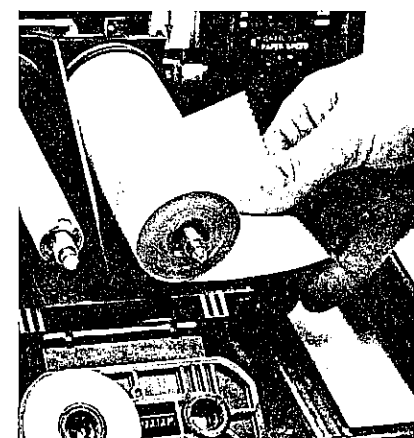

Figure 29
7. Slide a fresh roll of paper in position on the supply side shaft on the right side of the platen assembly. The paper must spool off the bottom of the roll. (See Figure 29.)